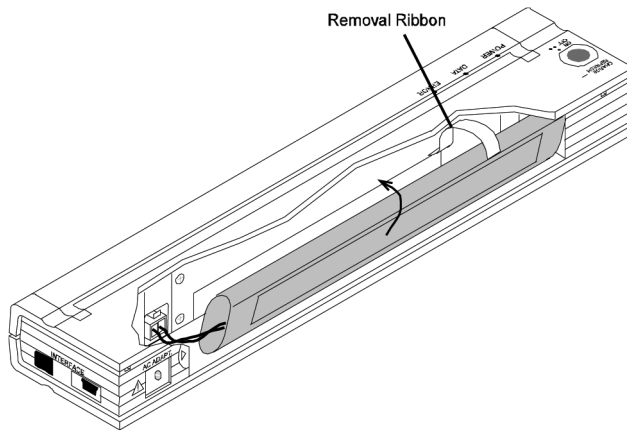

Figure 12. Placing the battery inside the battery compartment
4. Grasp the battery removal ribbon, which is attached to the inside of the battery compartment. See Figure 12.